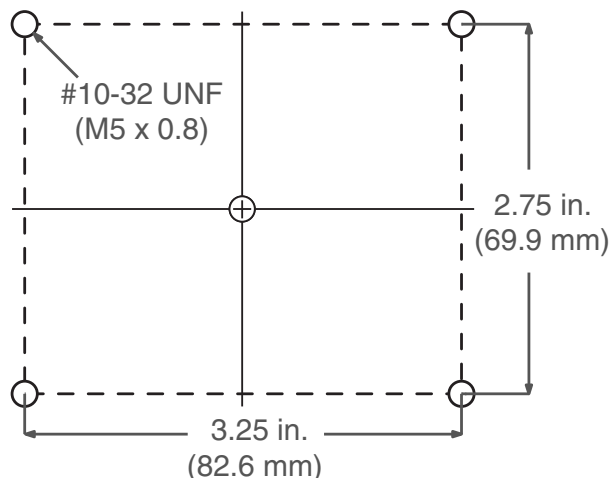

FIG. 21: CGM Mounting Holes
4. Drill the mounting holes using the mounting hole dimensions shown in **Figure 21**.